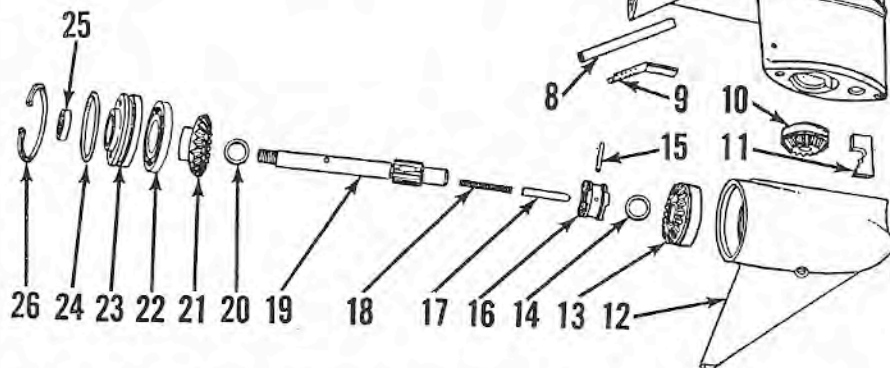

Fig. WB21—Exploded view of lower unit gearcase, drive shaft housing and associated parts.
**Full Gear Shift Models:** Refer to Fig. WB21. Loosen the locknut on the shift rod coupling, located behind swivel bracket below the power head. Remove the shift rod coupling turnbuckle to disconnect the shift rod; then unbolt and remove drive-shaft housing (upper gearcase) and gearcase from motor leg. Turn shift rod (1) counter-clockwise to clear the water pump housing; then disassemble and remove the water pump assembly (2 through 5).
Propeller shaft, gears, bearings and shift mechanism can be removed after housings are separated. Front gear and bearing (13—Fig. WB21) can usually be dislodged from housing by jarring open end of housing on a block of wood. If trouble is encountered, heat gearcase slightly with a torch to loosen bearing. When installing front gear in housing, assemble bearing cage (23), without the "O" ring (24) over rear of propeller shaft; install thrust washer (14) and gear assembly (13) on front of shaft; and use the shaft as a piloted driver. Backlash and mesh position of the gears are not adjustable.